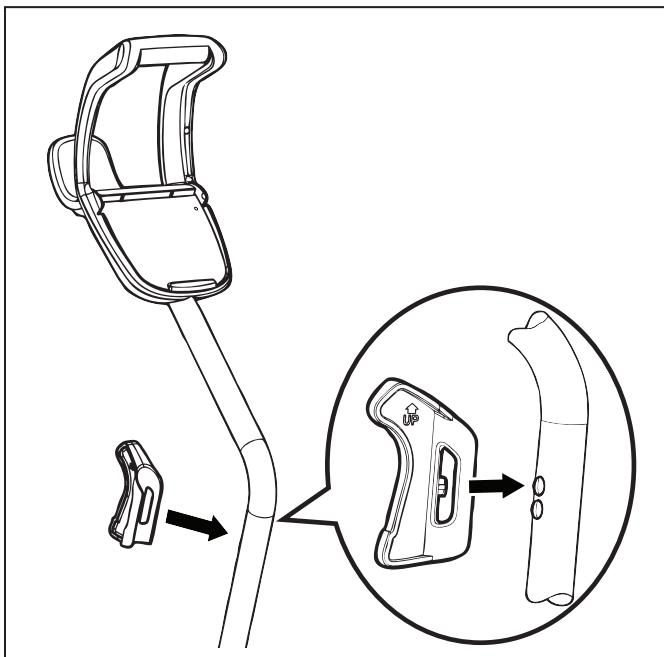

Figure 7. Snap Cleaner Hook into Place
8. Align cleaner hook pins with holes in the handle tube and snap into place (Figure 7).